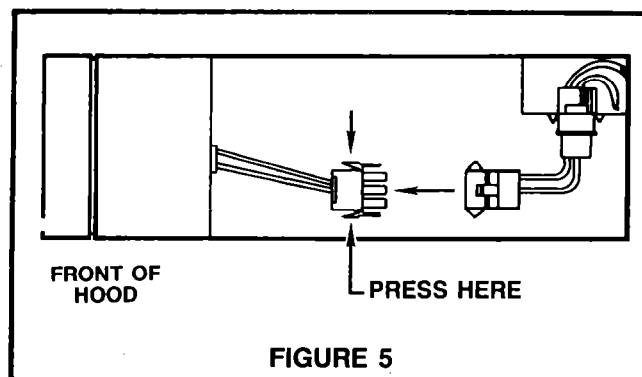

FIGURE 5
2. Disconnect attachment plug between switch box & rear wiring box. See Figure 5. Press two ears on male plug to disconnect.